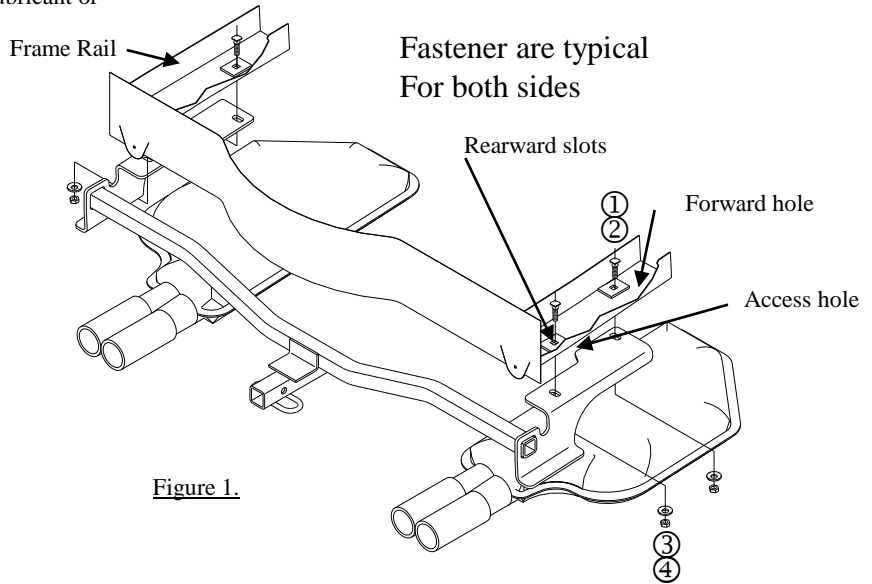

Figure 1.
- Raise hitch into position as shown in Figure 1. Feeding the pull wires through the holes on the bracket.